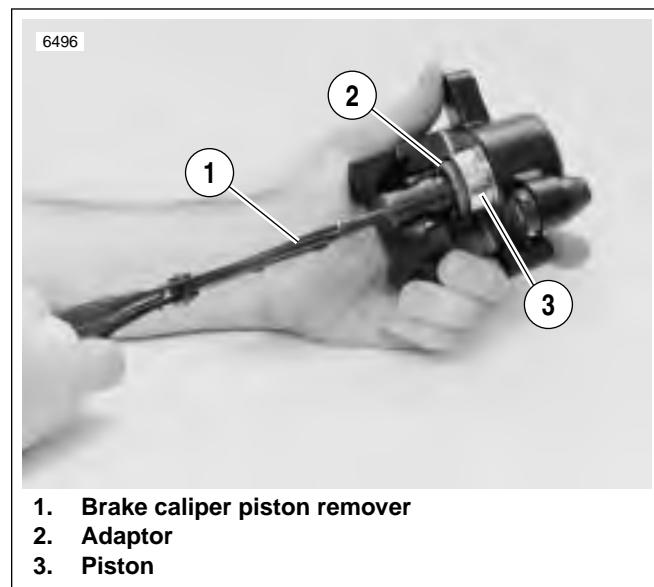

Figure 2-60. Removing Rear Brake Caliper Piston
3. See Figure 2-60. Remove piston (3) using BRAKE CALIPER PISTON REMOVER (1) (Part No. B-42887) with adaptor (2).